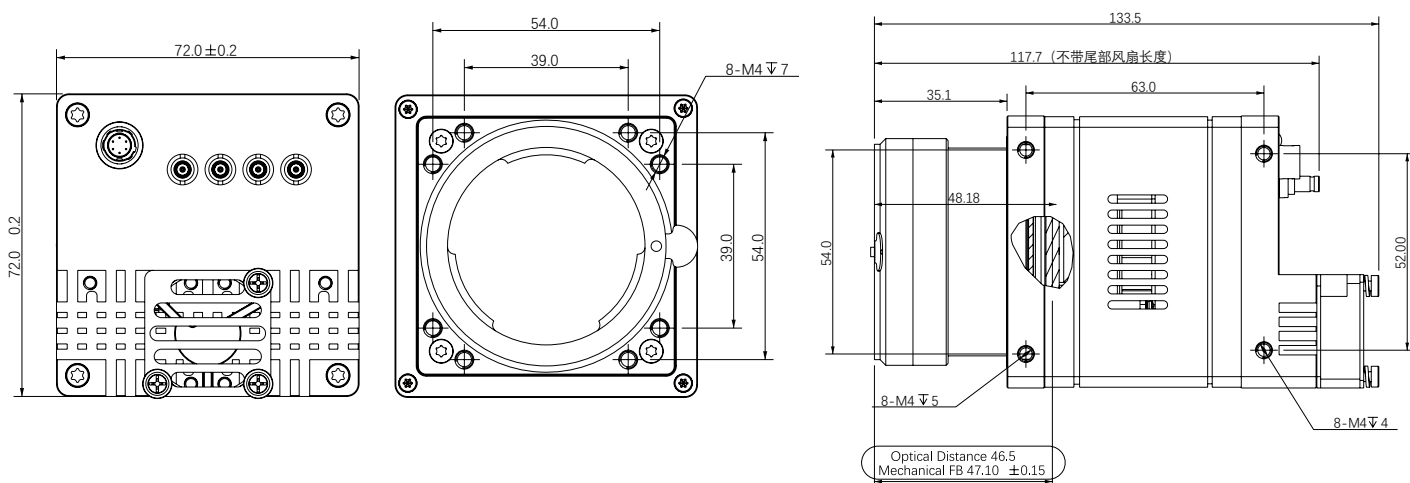

Fig. 1-3: Mechanical Dimensions (in mm) for Cameras with 72 \* 72 \* 72mm housing (F interface).
- Fig. 1-3: Mechanical Dimensions (in mm) for Cameras with  $72 \times 72 \times 72$ mm housing (F interface).